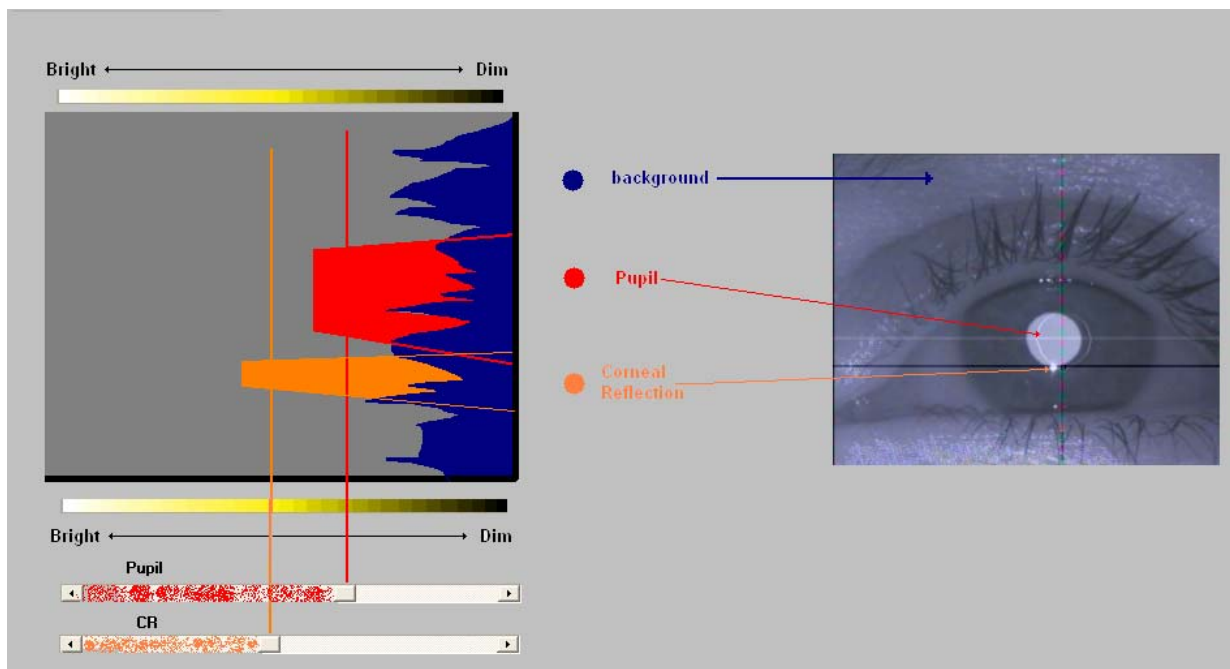

Figure 5-4. Proper pupil and CR discrimination.
2. Begin to increase the pupil discriminator level by moving the slide switch to the right. White dots will begin to appear on the eye monitor. These are discrimination points indicating video levels, which are high enough to trigger the pupil edge threshold. As the discriminator is turned up further, these white dots begin to form an outline within the pupil and when the discriminator is turned up far enough, the dots will form a line that circumscribes the pupil. At this point white recognition cross hairs should appear through the center of pupil. (The circle and cross hairs will actually be offset slightly to the right of the pupil as shown in figure 5-4).
3. Move the discriminator to the right just far enough so that a solid white circle forms about the pupil and white cross hairs designate the center of pupil. (Pupil diameter changes over time and as a function of where the subject looks.) Observe the eye monitor for several seconds as the subject looks around to be sure that recognition is maintained even when the pupil is at its smallest. There may be other areas in view which have white discriminator dots, but the pupil should be the only smoothly enclosed area and should have white recognition cross hairs designating its center. If the pupil is very dim and difficult to distinguish from surrounding features, move the Illumination slide switch to the right to increase illumination intensity; illumination can also be controlled with the Pg Up/Pg Down keys. This will probably not be necessary unless ambient illumination or the scene display is especially bright. If illumination intensity is increased be sure not to make the pupil as bright as the corneal reflection (CR). It is important that the CR remain visible within the pupil image.
5. With the subject looking straight ahead, move the CR slide switch right until a black outline forms about the CR and black recognition cross hairs designate the center of the CR (the circle and cross hairs will actually be offset slightly to the right as shown in figure 5-4).
7. When the pupil and CR are properly recognized for a given eye image, as shown in figure 5-4, set the “Pan/Tilt Tracking” radio button to “Auto” to enable automatic pan/tilt tracking. With automatic tracking enabled and the pupil properly recognized as described above, the pan/tilt camera should be able to follow slow head motions. Auto-focus should keep the eye image in proper focus over a range of several inches (the range will vary from about 6 inches at high zoom and close distances to 10 inches at slightly lower zoom and longer distances). If the focus range seems asymmetrical (auto focus can follow further in one direction than the other) zoom in (Zoom switch on Pan/Tilt, Setup window to the right) very slightly to increase the close focus range or zoom out (Zoom switch on Pan/Tilt, Setup window to the left) very slightly to increase the far range. If using a magnetic head tracker, be sure to follow the instructions in section 5.2.3 before setting the Pan/tilt tracking mode to Auto.